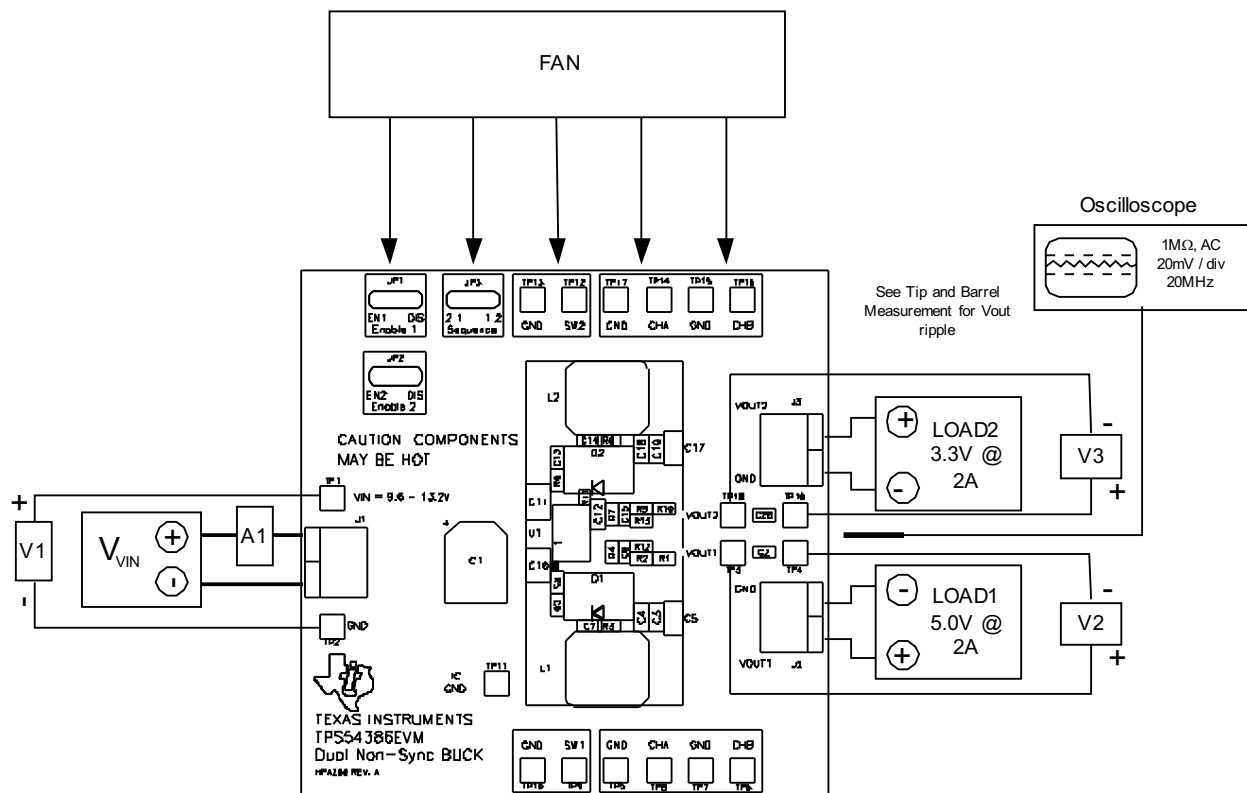

Figure 4-1. TPS54386EVM Recommended Test Set-Up
Shown in Figure 4-1 is the basic test set up recommended to evaluate the TPS54386EVM. Please note that although the return for J1, J2 and JP3 are the same system ground, the connections should remain separate as shown in Figure 4-1
2. Prior to connecting the dc input source, VIN, it is advisable to limit the source current from VIN to 5.0 A maximum. Make sure VIN is initially set to 0 V and connected as shown in Figure 4-1.
3. Connect the ammeter A1 (0-5 A range) between VIN and J1 as shown in Figure 4-1.
4. Connect voltmeter V1 to TP1 and TP2 as shown in Figure 4-1.
5. Connect LOAD1 to J2 as shown in Figure 4-1. Set LOAD1 to constant current mode to sink 0 A_{DC} before VIN is applied.
6. Connect voltmeter, V2 across TP3 and TP4 as shown in Figure 4-1.
7. Connect LOAD2 to J3 as shown in Figure 4-1. Set LOAD2 to constant current mode to sink 0 A_{DC} before VIN is applied.
8. Connect voltmeter, V3 across TP18 and TP19 as shown in Figure 4-1.
9. Place fan as shown in Figure 4-1 and turn on, making sure air is flowing across the EVM.